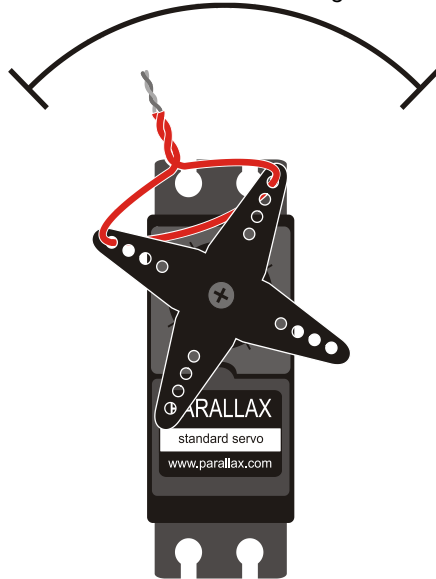

Figure 4-14
You can find the center of the servo's range of motion by gently rotating the horn to find its clockwise and counterclockwise mechanical limits. The half way position between these two limits is the center or 90° position. The servo's center position could fall anywhere in the region shown in Figure 4-14.
- ❑ With the servo horn in its center position, thread a jumper wire through the horn and twist tie it so that it points upward into the region shown in Figure 4-14.